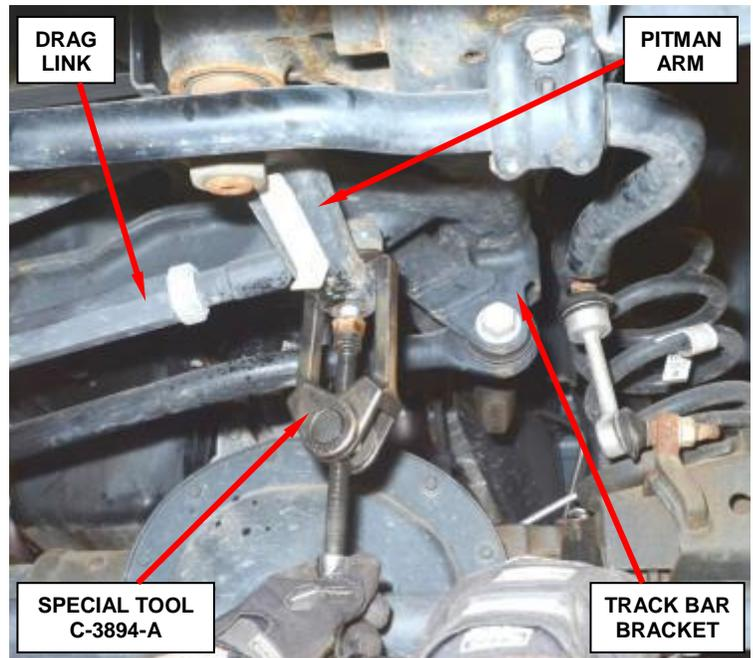

Figure 68 – Disconnect Drag Link from Pitman Arm
9. Using special tool C-3894-A, disconnect the drag link from the pitman arm (Figure 68).